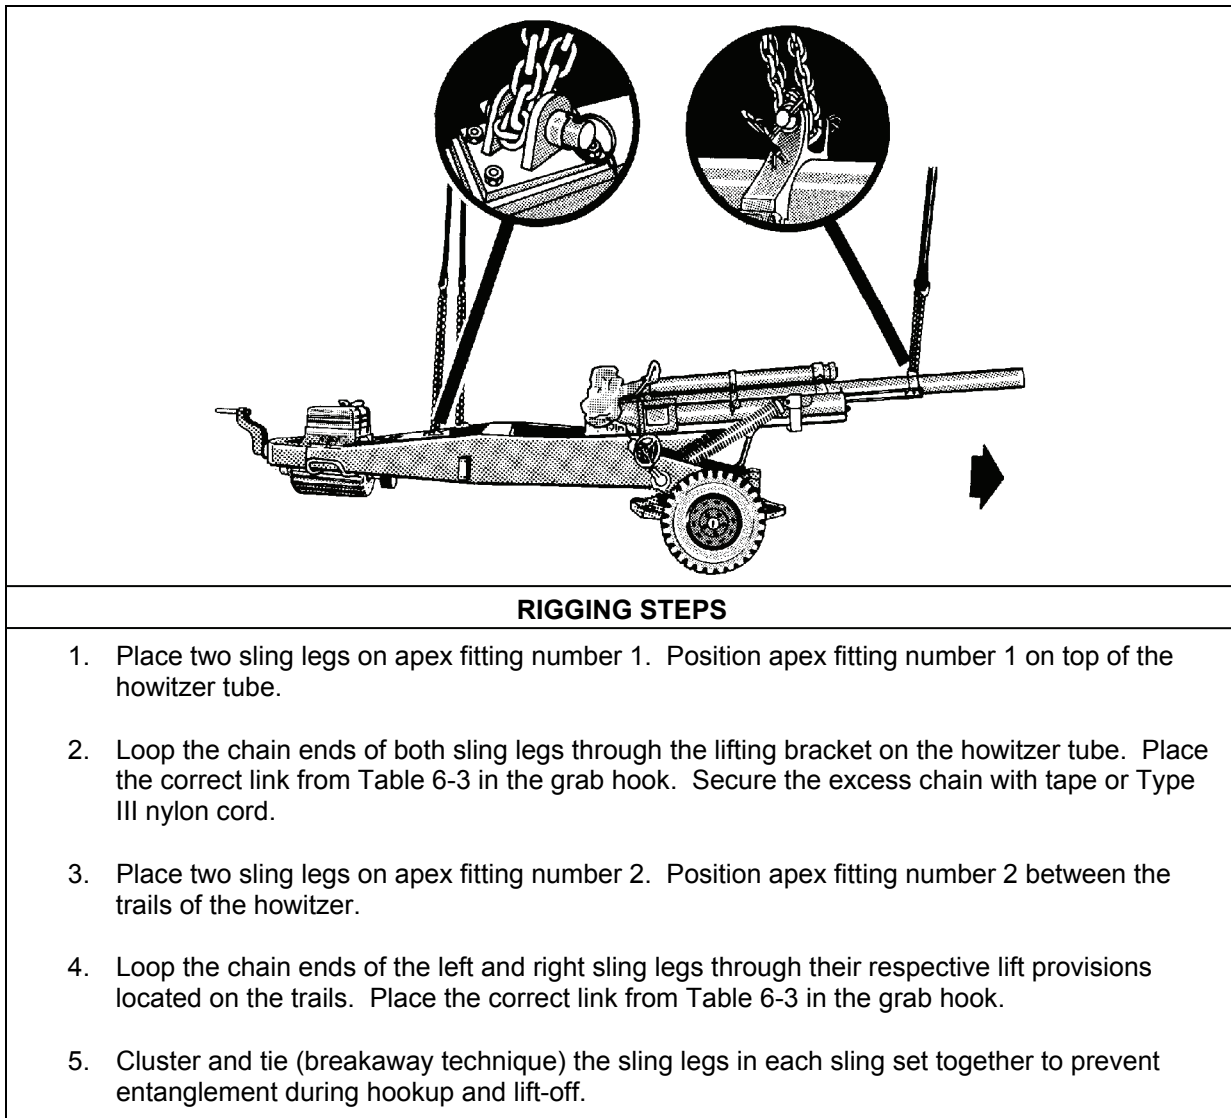

Figure 6-3. M102 Howitzer
- **Rigging.** Rig the load according to the steps in Figure 6-3.